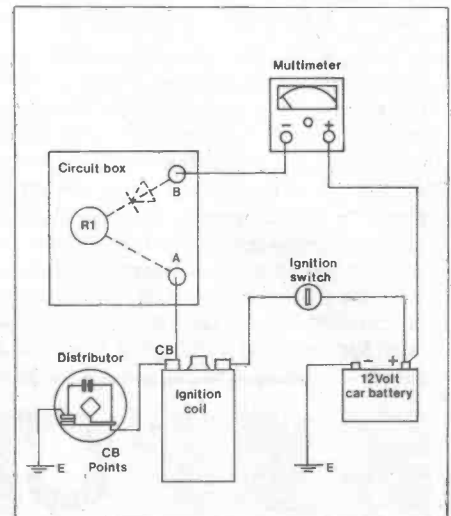

Figure 4.
The above circuit can be accommodated in a small box as shown in Figure 4. A knob is fitted to the 47k pot, and points (A) and (B) brought out on two terminals. The multimeter could also be used to carry out the following tests: Continuity Test, Circuit Tracing, Current Leakage, Battery Voltage and condition, together with testing for high resistance of any leads, switches or contacts. All of the examples shown applied to four cylinder engines. To measure the dwell angle on engines with more than four cylinders, the multimeter adjustment should equal the number of degrees between the lobes, which are as follows: